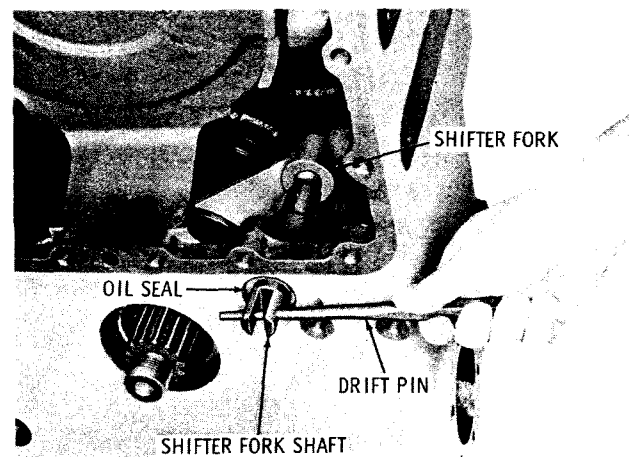

Fig. 5-38. Removing disconnect shifter shaft
(1) Rotate shifter fork shaft counter-clockwise to remove it from the front of the transmission housing (fig. 5-38). Removal of the shifter fork shaft will allow the shifter fork to fall into the sump area. Remove the shifter fork. Remove the shifter shaft oil seal only if replacement is necessary.